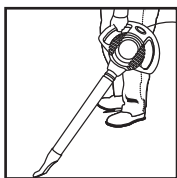

FIGURE 17
31. The correct operating position is to hold the portable blower in either hand, at arms length at your side. Your portable blower has been designed with the necessary angle to direct the air blast toward the ground in front of you. **FIGURE 17.**